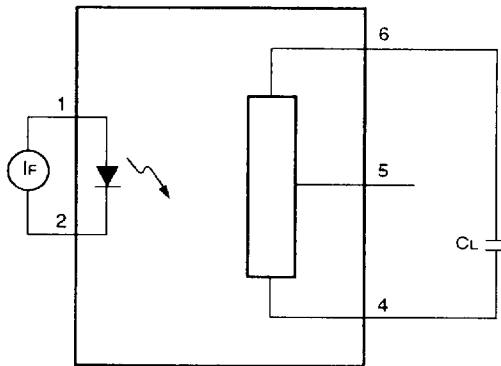

Figure 4. ATT1800 Test Circuit Without External Biasing
**Table 3. MOSFET Driver Electrical Characteristics WITHOUT External Biasing (See Figure 4.)**